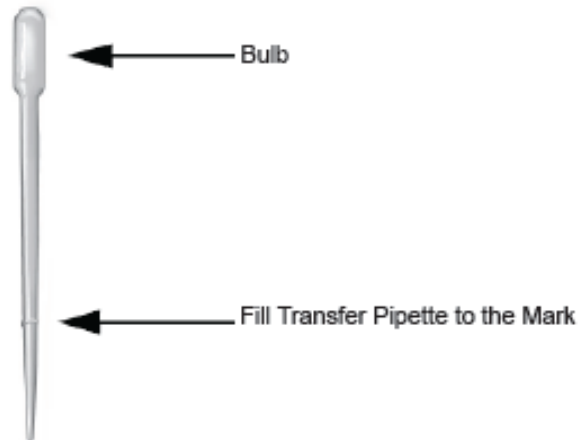

Figure 1: Transfer pipette and fill mark
5. Remove the transport tube cap, compress the bulb of the transfer pipette, insert the pipette into the transport tube and release the bulb to fill the transfer pipette up to the mark (500 μ l) on the pipette shaft. See Figure 1. Ensure the pipette is filled with no air bubbles present.